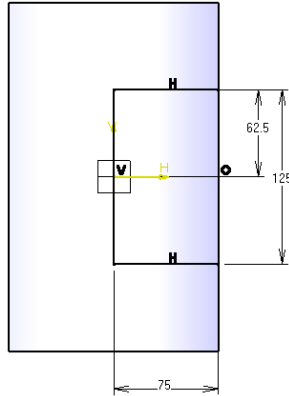

Figure 5-91 Sketch of the second feature
- Create the second feature by extruding the sketch drawn on a plane created at an offset distance from the XY plane, refer to Figures 5-91 and 5-92.
3. Draw the sketch, as shown in Figure 5-91, and exit the **Sketcher** workbench.